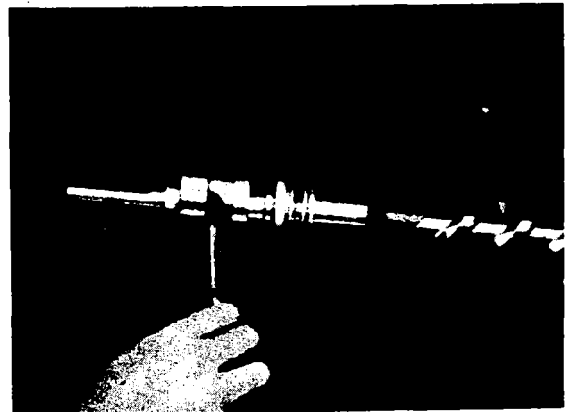

Figure 2.
3. Remove the inner retaining ring from its groove by pulling back the mechanical seal and prying with a screw driver (Fig. 2).